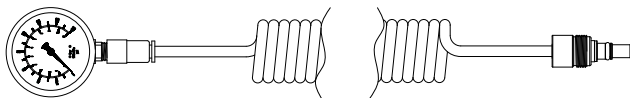

Figure 54: CP Target Gauge VS-32344
4. **Remove** tire hose at a hubcap and **install** CP target gauge (Figure 54).